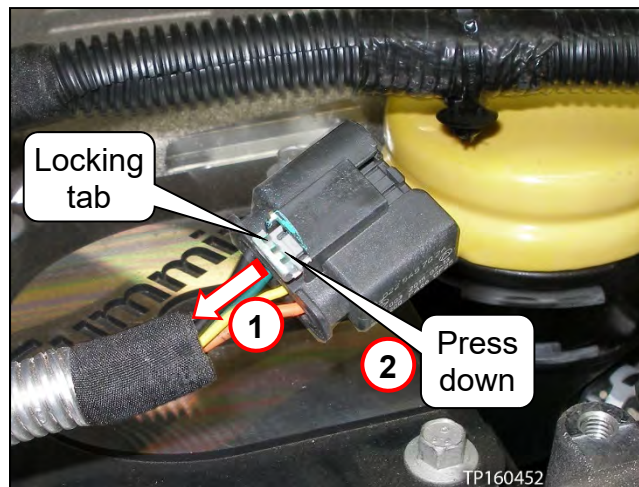

Figure 18
- Figure 18 - Figure 20 shows how to unfasten the different types of connectors.